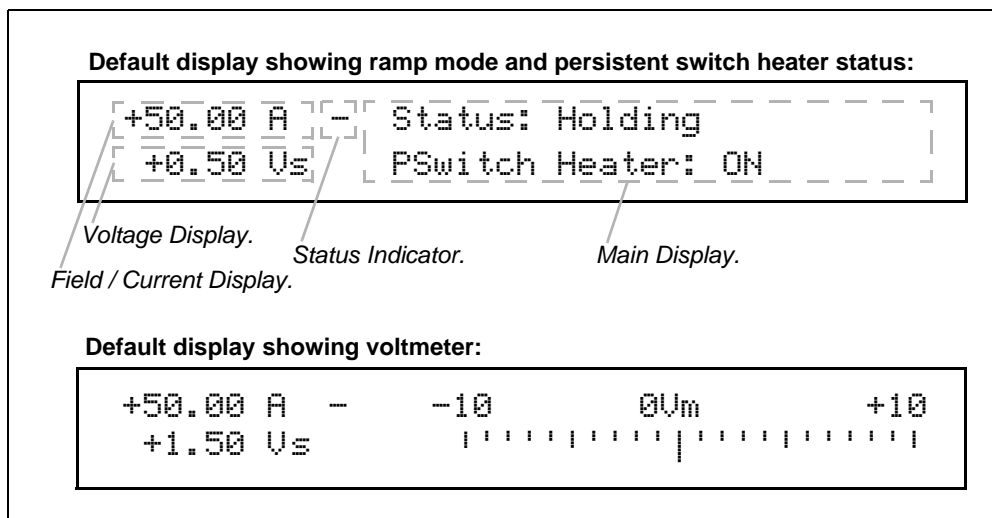

Figure 3-1. Default Display.
The field / current display indicates either the field strength or current¹. This is always displayed in the upper left corner of the display (see Figure 3-1), regardless of what else is being displayed on the Model 430 Programmer display. The parameter displayed (field or current) is toggled by pressing **SHIFT** followed by **FIELD <> CURRENT**. Thus, if field strength is being displayed, pressing **SHIFT** followed by **FIELD <> CURRENT** will cause the current to be displayed; conversely, if current is being displayed, pressing **SHIFT** followed by **FIELD <> CURRENT** will cause the field strength to be displayed. Operating current is always displayed in amperes (A). Operating field strength may be displayed in kilogauss (kG) or tesla (T) if a coil constant has been specified in the setup². If field strength is being displayed, the units (kG or T) in which it is displayed can be toggled by pressing **SHIFT** followed by **FIELD UNITS**.
1. The value is always displayed in current (A) when an installed persistent switch is in the *cooled state* since the value represents power supply current only, independent of magnet current/field.
The voltage display indicates either the voltage across the magnet (V_m) or the power supply output voltage (V_s). This is always displayed in the lower left corner of the display (see Figure 3-1), regardless of what else is being displayed on the Model 430 Programmer display. The parameter displayed (magnet voltage or power supply voltage) is toggled by pressing **SHIFT** followed by **Vs <> Vm**. V_m indicates the voltage measured across the terminals of the connected superconducting magnet. In order for the Model 430 Programmer to measure the magnet voltage, the magnet voltage taps must be connected to the Model 430. Normally this is done through the Magnet Station Cable provided by AMI (if the whole magnet system is provided by AMI). V_s indicates the Model 430 Programmer-controlled power supply output voltage.
The status indicator indicates the Model 430 Programmer operating status. It is always visible (except during a quench condition) and is displayed just to the right of the field / current display (see Figure 3-1). The status indicator may be one of six symbols indicating one of the seven states shown in Table 3-1.
The default main display (the rightmost portion of the display – see Figure 3-1) shows either a voltmeter indicating magnet voltage or ramp mode and persistent switch heater state. Ramp mode is displayed on the top line of the main display; it will be one of eight states, as shown in Table 3-6 on page 76. Persistent switch heater state is displayed on the bottom line of the main display. If the Model 430 Programmer has been setup for use with a persistent switch, it will indicate either ON or OFF for the persistent switch heater state; otherwise, it will display “No PSwitch Installed.”